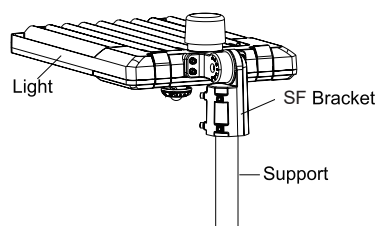

Figure 10
Step 2: Place the bracket onto the pole and tighten the four fasteners. (Fig. 10)